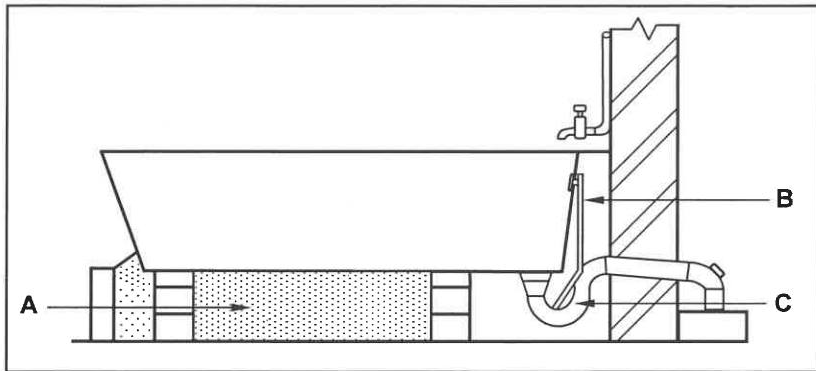

FIGURE 6.7
6.7 FIGURE 6.7 below shows the sectional view of a bath installation.